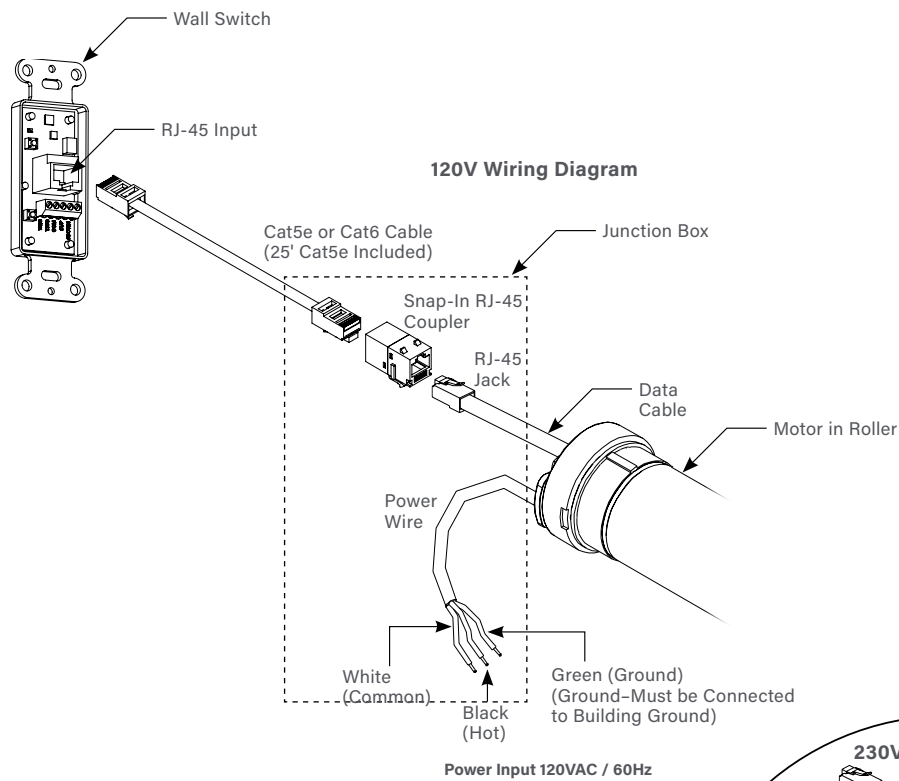

Figure 11
4. Plug the Cat5e cable into the RJ-45 connector (Figure 11).
5. Connect the Cat5e cable included to the wall switch (Figure 11).